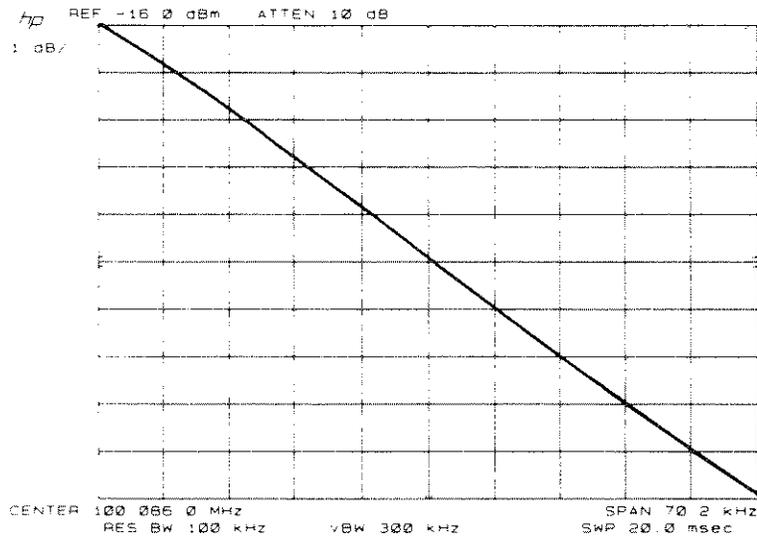

Figure 4-7. Determining Spectrum Analyzer FM Sensitivity
3. Adjust the frequency span and center frequency for a diagonal trace from the top left corner to the lower right corner of the CRT (see figure 4-7).